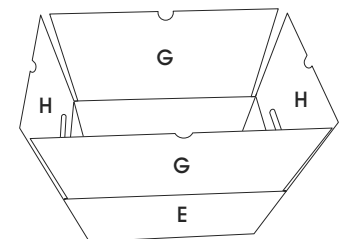

Figure 7
6. Turn the box over so that the certification stamp is side down and the box opening is on top. (See Figure 7)